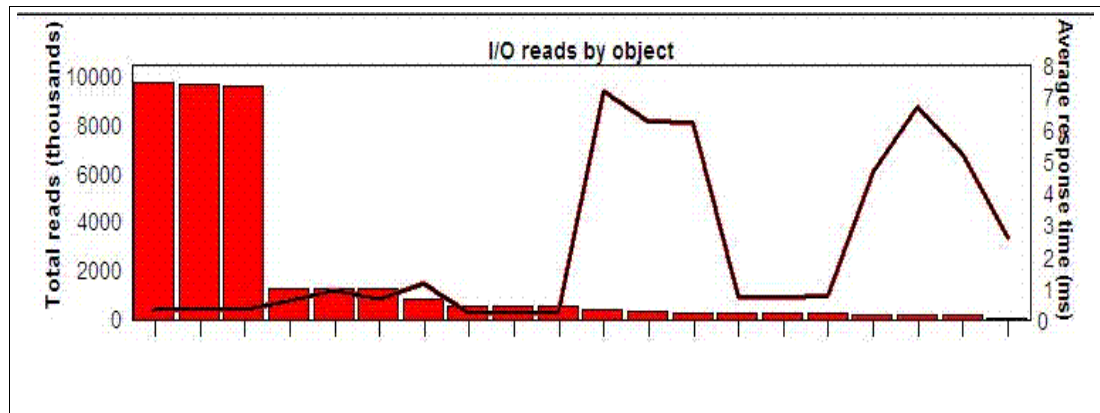

Figure 11-3 Read operations on IBM i objects by iDoctor
- ▶ *iDoctor* is a suite of tools used to manage the collection, investigate, and analyze performance data on IBM i. The data collected by PEX can be analyzed by the PEX-Analyzer tool of iDoctor. An example of iDoctor showing read operations by IBM i objects, can be seen in Figure 11-3. You might notice that big majority of read operations goes to the three IBM i objects, so these objects are good candidates to relocate to SSD.